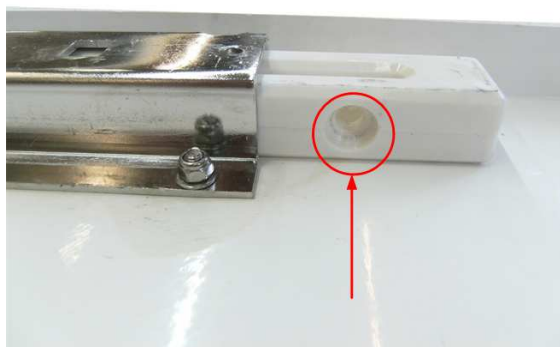

Figure 8 : Hole's plastic part
- 1) Before the installation of the new plastic parts, be sure that the hole (see *Figure 8*) is in the right position.